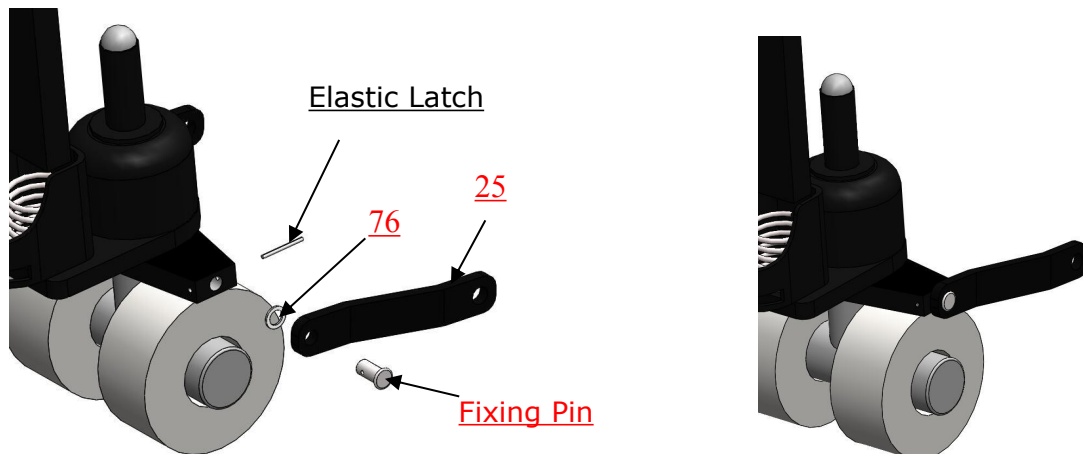

Fig.21
2. Insert the wheel assembly connecting board and fixed by elastic latch (**Fig.21**).